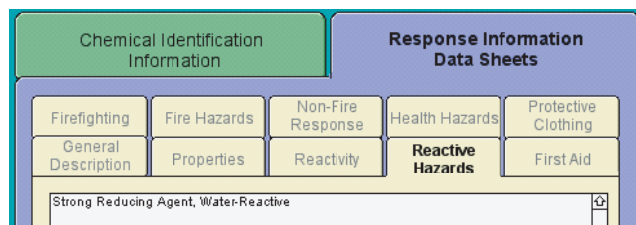

FIGURE 3-6. The acute reactive hazards of calcium carbide.
2. Click the Response Information Data Sheets tab, then click the Reactive Hazards tab to see the acute reactive hazards of that chemical (as in Figure 3-6 on page 101).